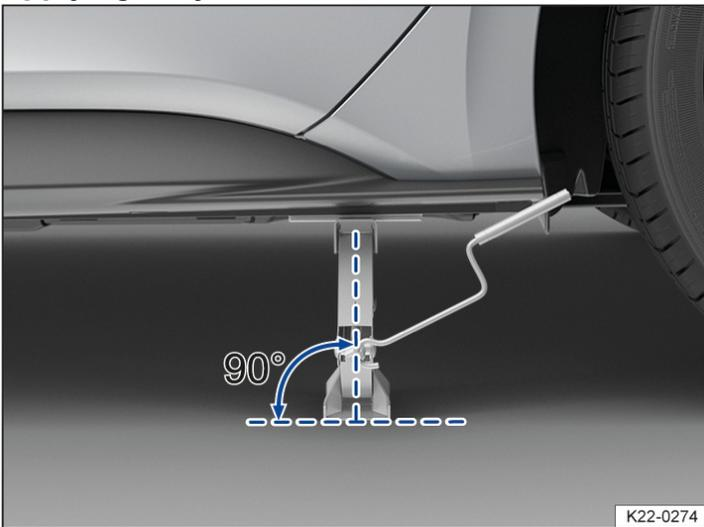
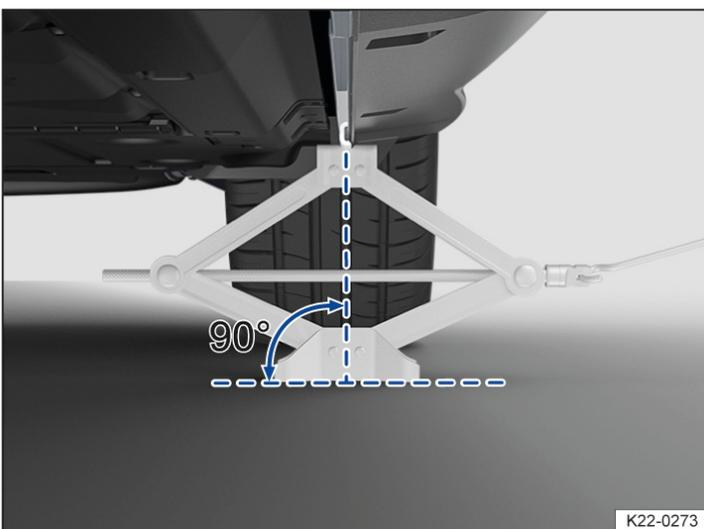

Fig. 2 Correct alignment of the jack.
Fig. 3 Scissors jack applied at the rear on the left-side of the vehicle.
4. Make sure that the entire surface of the foot of the jack is resting securely on the ground and that the foot of the jack is positioned vertically directly beneath the jacking point → *Fig. 2* and → *Fig. 3*.
5. Position the jack and simultaneously continue to crank the claw up until it is in position around the jacking point underneath the vehicle → *Fig. 3*.
- Fit the jack only at the described jacking points. The jack claw must grip the vertical rib under the side member securely → *Fig. 3*.